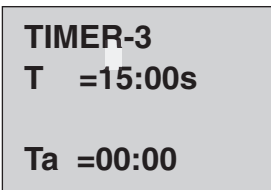

Fig. 8
7. Press arrow up/down keys ▲ or ▼ to select the next parameter to change (Timer -3). Repeat steps 4 and 5 to change the Timer-3 parameters. See figure 8.